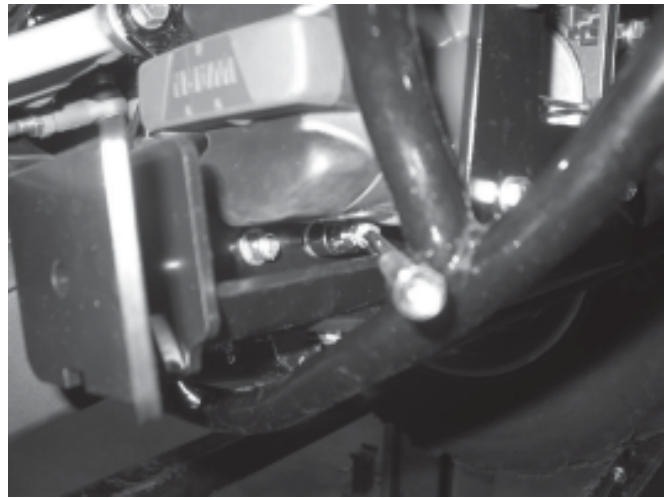

Figure 5
- Install the 5/16-18 u-bolts around the vehicle frame through the back side of the plow mount assembly, as shown in Figure 5. As a result of limited clearance, needle nose pliers can be used to place the washers over u-bolts and 1/2" socket with an extension and u-joint will make it easier to install the nuts on the u-bolts. Do not tighten in place at this time. The access slot on front side of bottom bracket may be used to allow tool access to help tighten the nuts of the u-bolts in place.